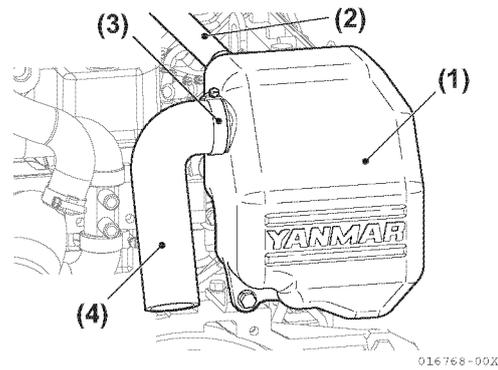

**Figure 5-194**
58. Install the turbocharger for 4JH4-TE and 4JH4-HTE (Figure 5-194).